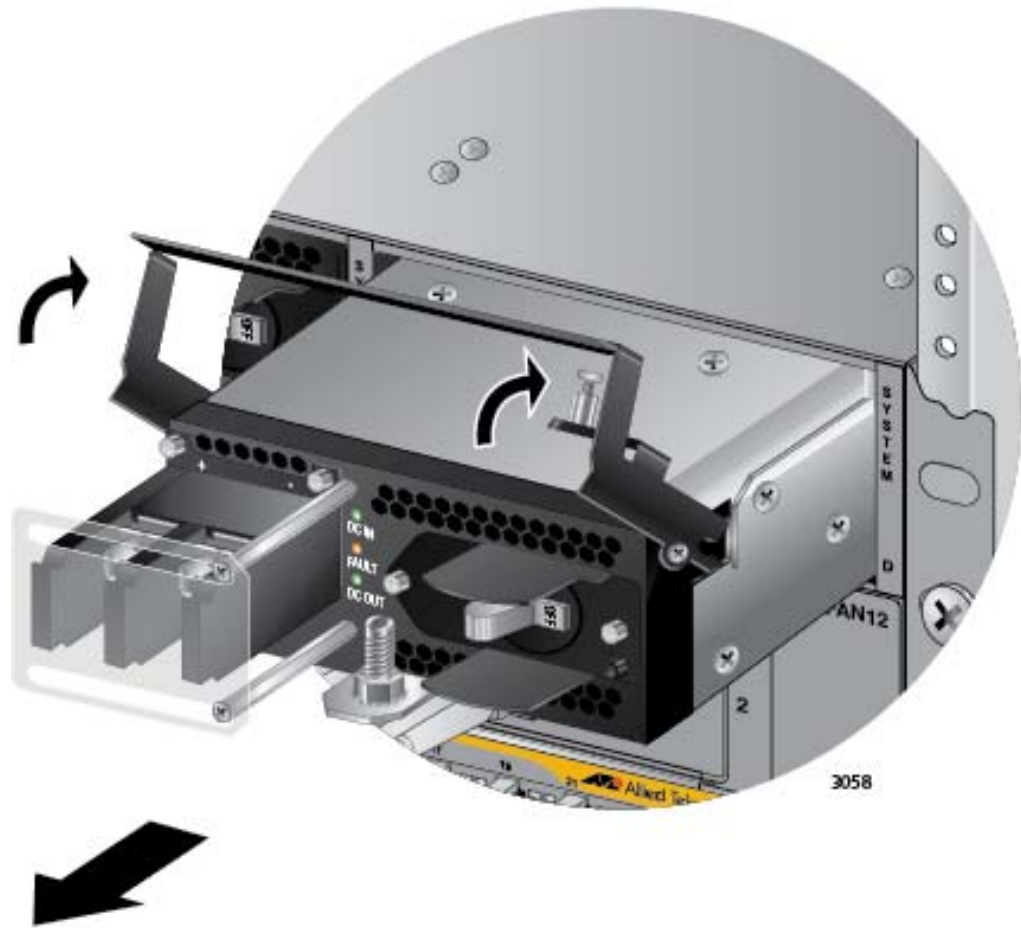

Figure 157. Lifting the Locking Handle and Removing the Power Supply
11. Lift the locking handle and slide the power supply from the chassis. Refer to Figure 157 on page 248.